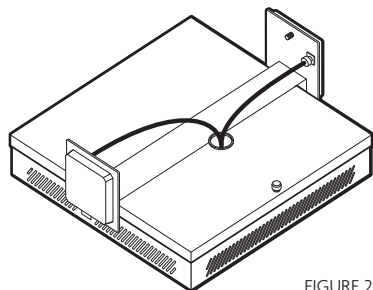

FIGURE 2
4. Feed the coax cables through the round pass through hole in the top of the enclosure, (Figure 2) and connect them to the X-WAV antennas.